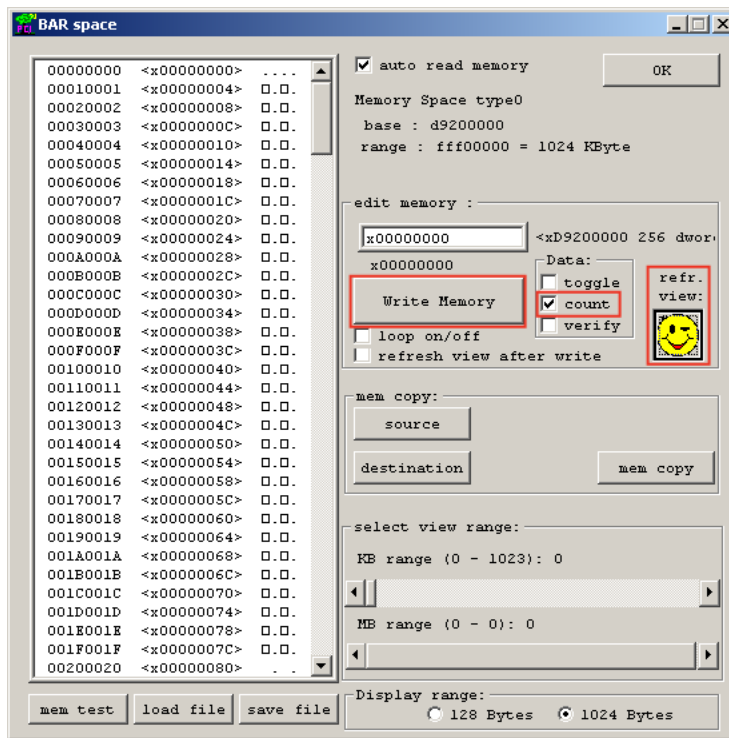

Figure 1-41: Select to Write Memory
23. Write to memory by selecting the count box and Write Memory button (as shown in Figure 1-41).